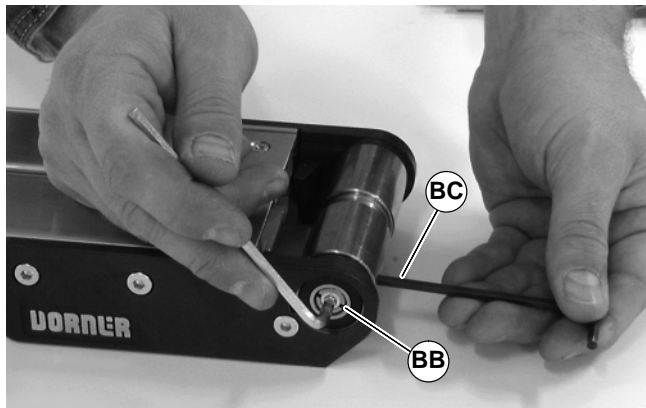

Figure 46
3. On both sides of pulley, use a 4mm hex-key wrench to tighten pulley taper screw (BB of Figure 46) to 4 Nm. Steady pulley with second hex-key wrench (BC) inserted into pulley hole.